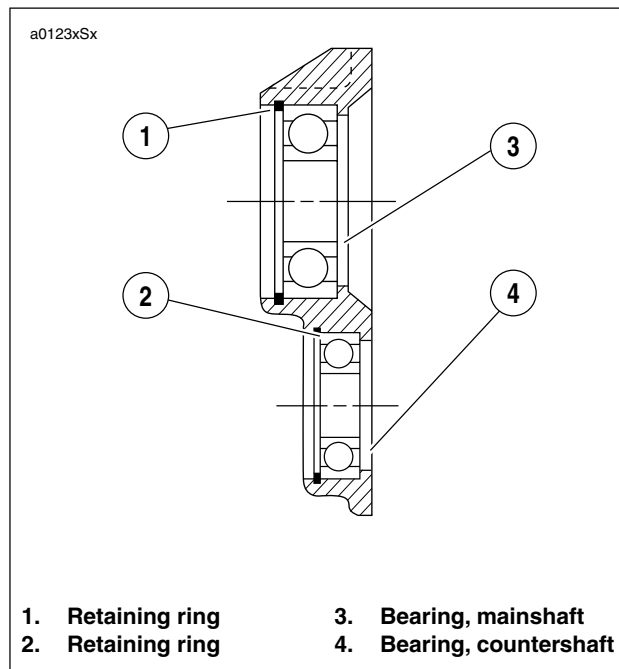

Figure 6-77. Ball Bearing Assembly
5. See Figure 6-77. If bearing replacement is required, remove retaining rings (1, 2) using snap ring pliers (Snap-On Part No. PR-36). Press out bearings (3, 4) from the inside of the crankcase.